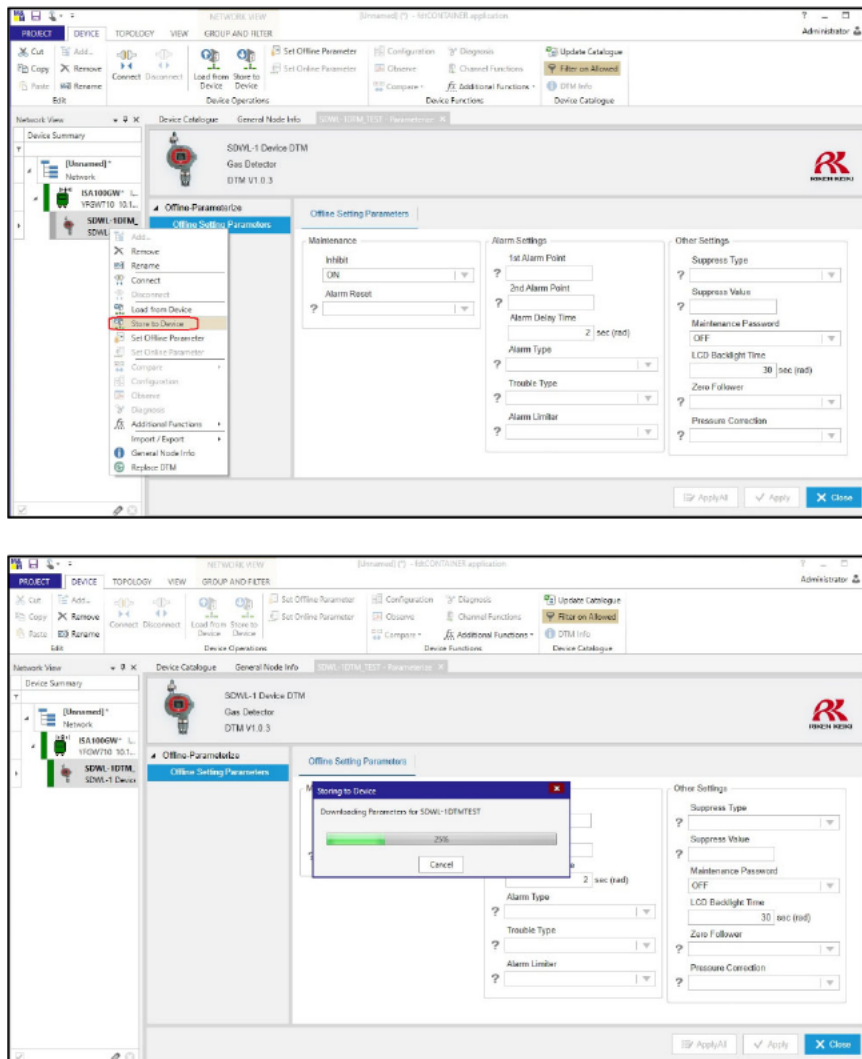

Figure 6-13 Downloading parameter settings to SDWL-1
- ② Right-click the SDWL-1 (tag name) in the tree menu, then select “Store to Device”. Downloading starts. Parameter setting is complete once the download indicator disappears. (Figure 6-13)